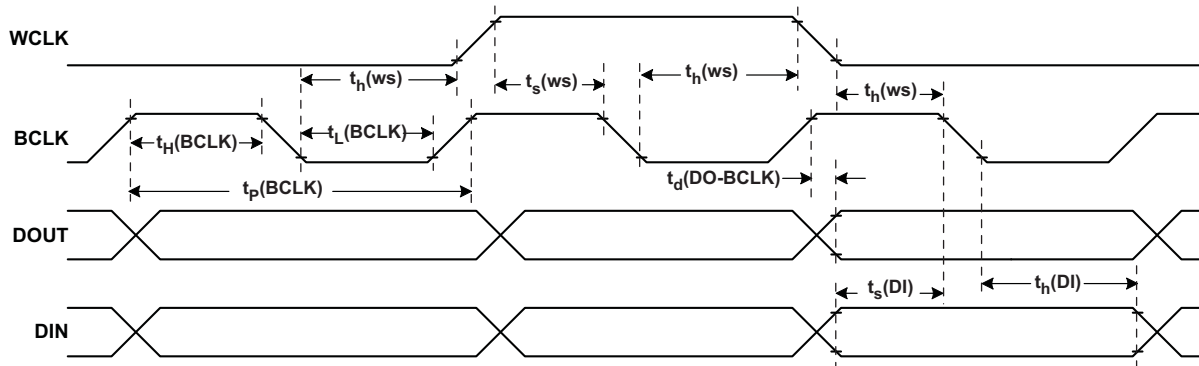

Figure 3-4. DSP Timing in Slave Mode
3.6.3.2 Typical Timing Characteristics (see Figure 3-4)